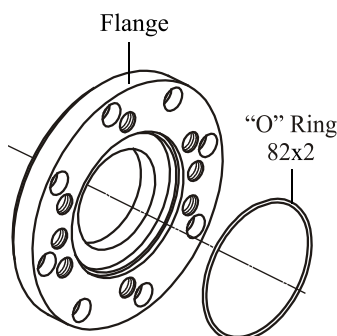

Fig. 9
2. Separate O-ring 82x2 from flange (see Fig.9). There are no rear bearing and shaft seal.